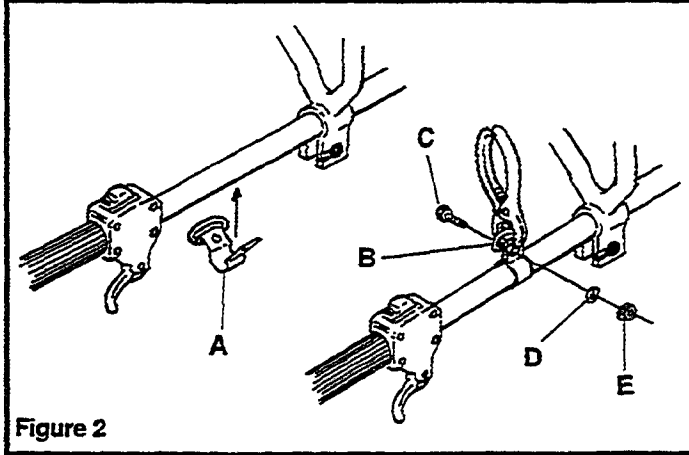

Figure 2
- Spread strap bracket (A) to fit over drive shaft housing. Position strap bracket between throttle control and handle, with hanger loop (B) facing up. Using pliers, squeeze strap bracket together and hold in that position to install bolt (C), lock washer (D), and nut (E). Tighten nut securely. (Figure 2)